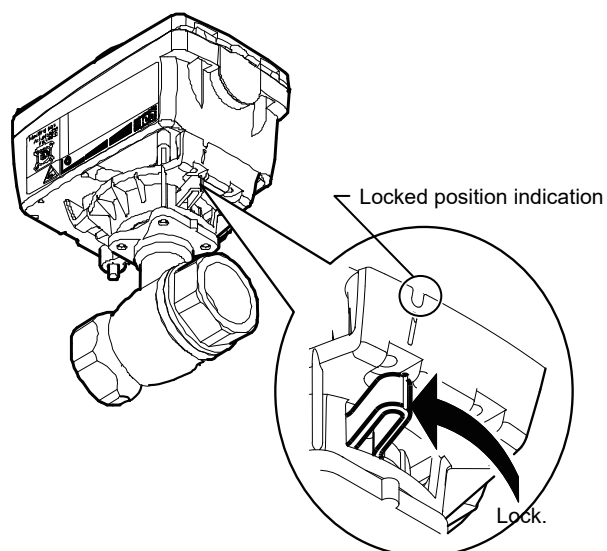

Figure 12. Locking the lock lever
- 5) Move the lock lever to left-end to lock. Locked position is indicated with the groove as shown in Fig. 12.